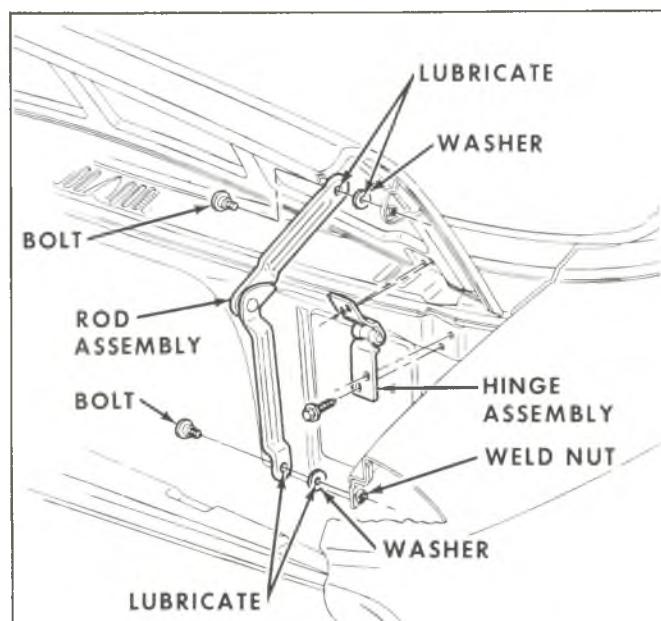

Fig. 5—Hood Hinge and Rod Assembly—G Series
Hood Hinge (Fig. 5)
3. Remove rod assembly (see fig. 5).